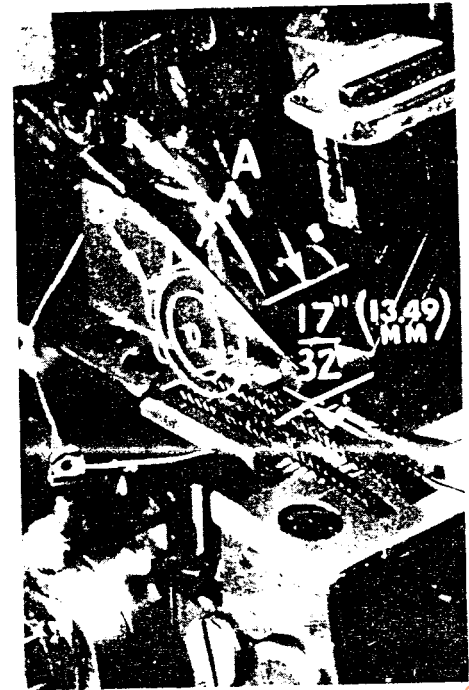

Fig. 4
With throat plate assembled in position, needle should center in the front end of needle slot. When needle is at high position, needle point should be set $17/32$ inch (13.49 mm) above throat plate (Fig. 4), for 695B012, 030 and 040. This dimension should be $1/2$ inch (12.70 mm) for 695B051. To align needle or set the height above throat plate, move needle driving arm (A, Fig. 4) by loosening clamp screw (B). Remove throat plate, after needle has been set properly and clamp screw (B) has been tightened.